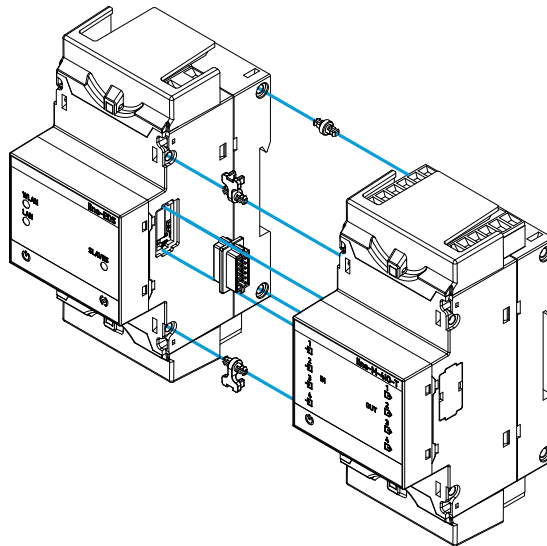

Figure 9: Installation step 2.
2.- Insert the expansion connector and fastening clips into one of the devices (**Figure 9**).